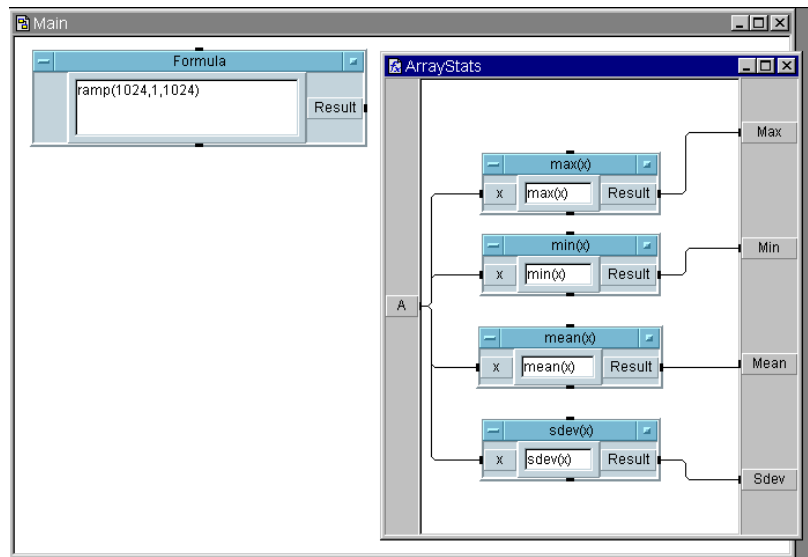

Figure 7-1. The Main and ArrayStats Windows
- d. Place them in `ArrayStats`, and connect their data inputs to `A` and their data outputs to the appropriate output terminals. Make the `ArrayStats` window smaller to see both of the `Main` and `ArrayStats` windows. See Figure 7-1.